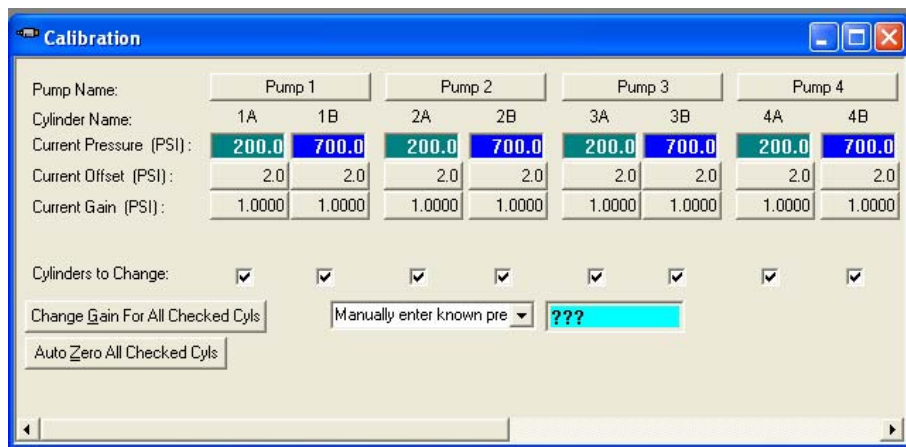

Figure 4 Pressure Transducer Auto Zero Calibration
8. After filling both cylinders, leave the fill valves open. If the fill valves are closed, you can open them by clicking on the Fill Valve button located on the Pump Data and Control Window near the bottom of the window. The pressure transducers are calibrated at the factory, but the initial value for ambient pressure may be different. You can set the initial value of the pressure transducers at this time by clicking on the “Other” item on the main menu and then selecting “Software Pressure Transducer Calibration”. The dialog box shown in Figure 4 will show the current pressure value for each transducer, as well as the Current Offset gain (zero gain) and Current Gain (high span gain). Since the Fill Valves are open, the Current Pressure value should be at or near ambient, and can be set to zero by clicking the “Current Offset” button and selecting “Auto Zeroing” button. If you have a version of PumpWorks software greater than 6.02, you can click the check-boxes for “cylinders to change”, and then click the “Auto-Zero All Checked Cylinders”. Do not change Current Gain, as this is the factory span calibration factor.